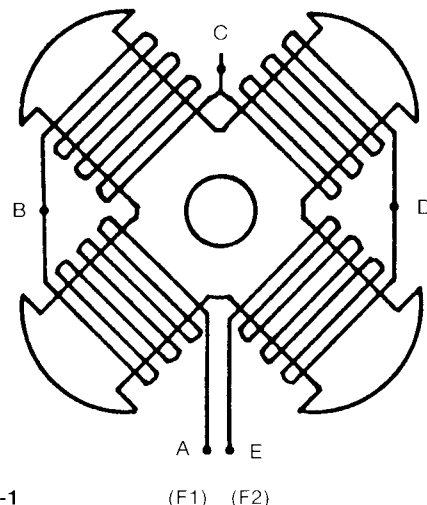

FIGURE 8-1
- Step 3: Measure and record voltages across each pole. Between points "A" and "B", "B" and "C", "C" and "D", "D" and "E" (Figure 8-1).